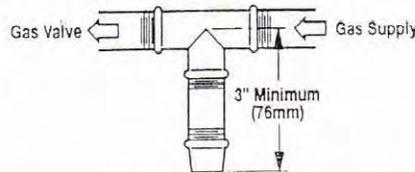

Figure 6
**Note:** Always install a sediment trap in the black iron pipe just outside the appliance (Figure 6).